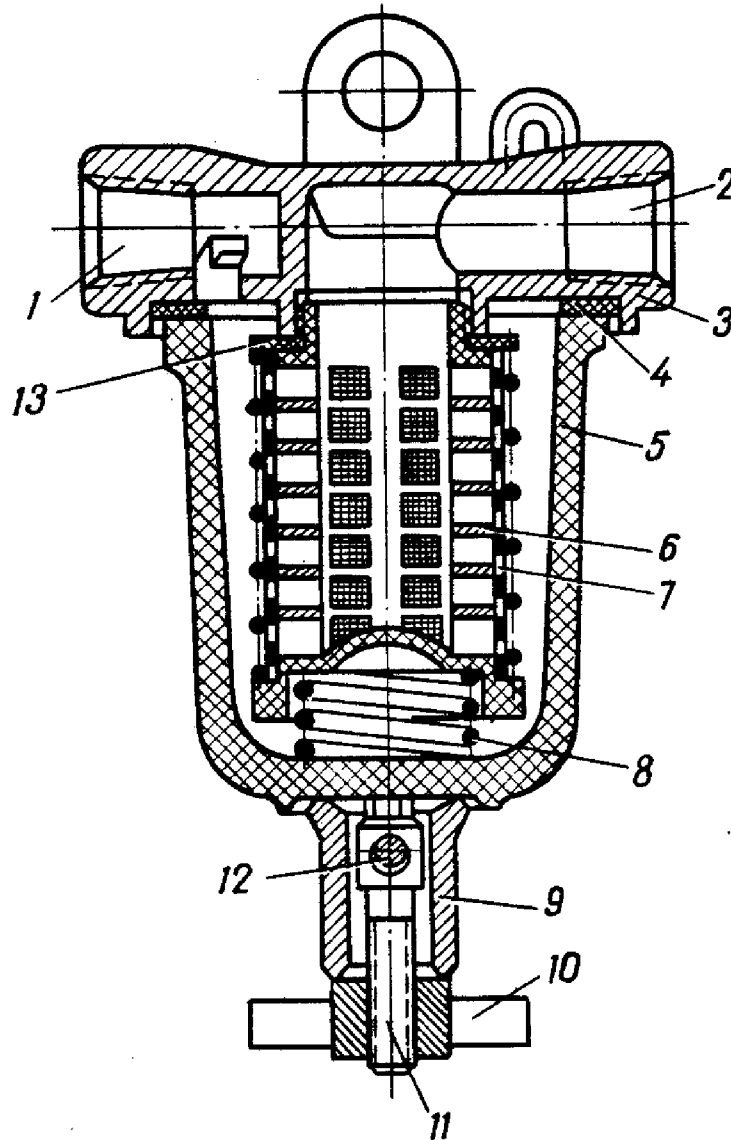

FIG.21. FINE FUEL FILTER
4. Remove the bowl-settler of the fine fuel filter (Fig.21) and wash the filtering element with gasoline.
1. Disassemble the fuel filter-settler (Fig.10) and the fine fuel filter (Fig.21) and wash the filtering elements with gasoline.